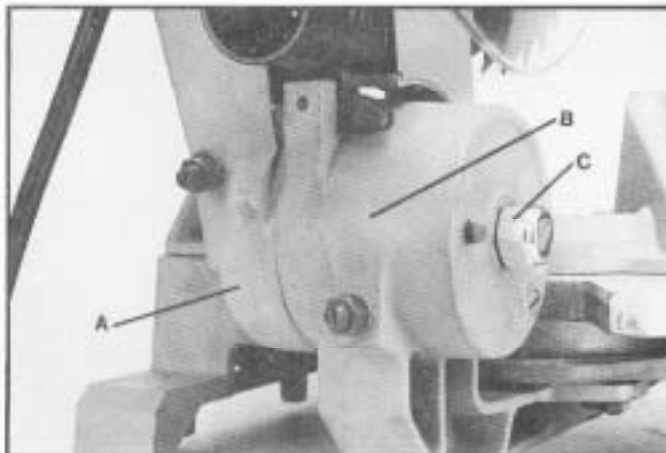

Fig. 29
To adjust the sliding fit between the arm assembly (A) Fig. 29, and the table bracket (B), tighten or loosen the adjusting nut (C). Correct adjustment is when a good snug sliding fit is obtained without any side movement between these two parts. This adjustment should not be too tight that it restricts the sliding movement or too loose that it affects the accuracy of the saw cut.